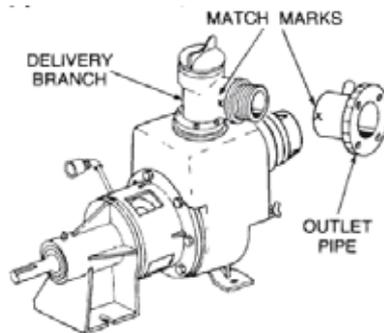

Figure 28 Outlet Pipe Removal
- d. Match mark the delivery branch to the outlet pipe (Figure 28).